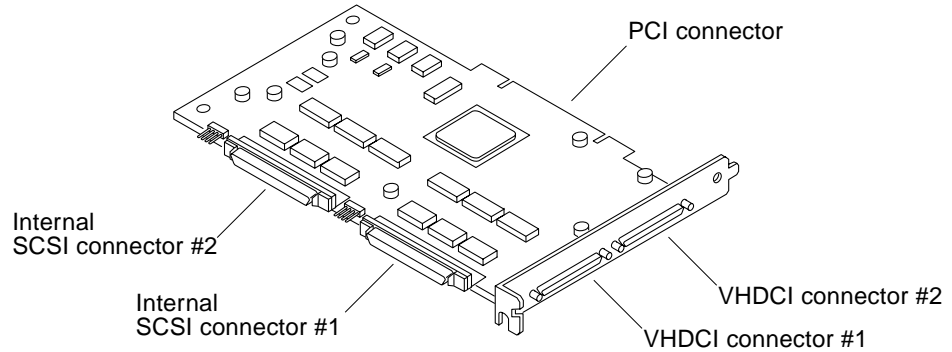

FIGURE 1-1 PCI UltraSCSI Host Adapter Card
- PCI UltraSCSI host adapter (FIGURE 1-1)
Note – A single-ended host adapter is shown in FIGURE 1-1. There are slight variations in components between the single-ended and differential host adapters.
In the example, the first SCSI port (`scsi@2`) has one disk drive connected (target 8). The second SCSI port (`scsi@2,1`) also has one disk drive connected (target 1). In FIGURE 1-1, the first SCSI ports are labeled as #1; the second SCSI ports are #2.